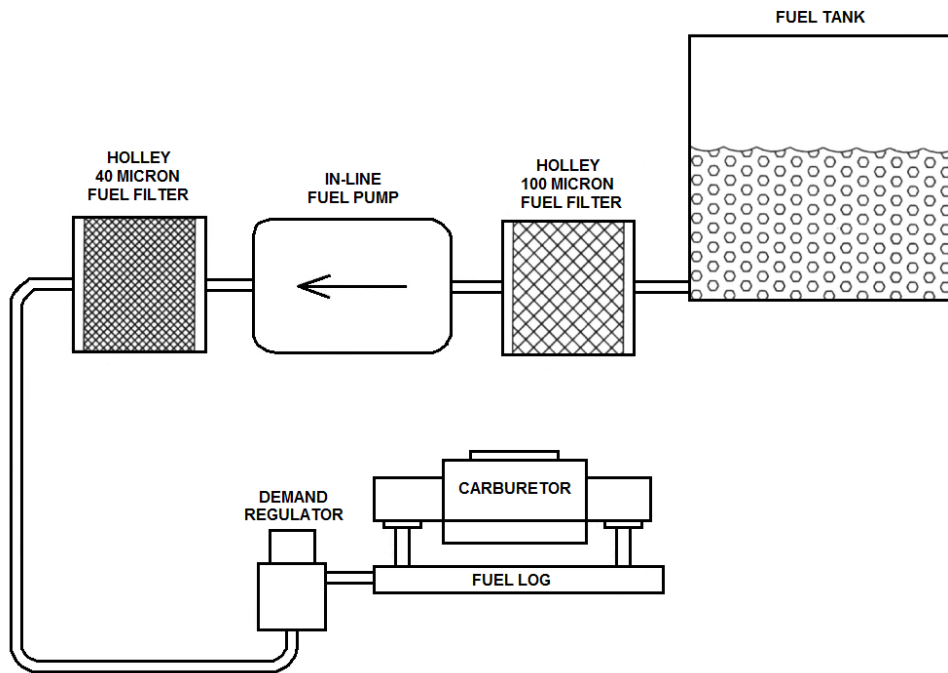

Figure 2a
4. Connect the outlets of the regulator per Figure 2a, 2b, or 2c.